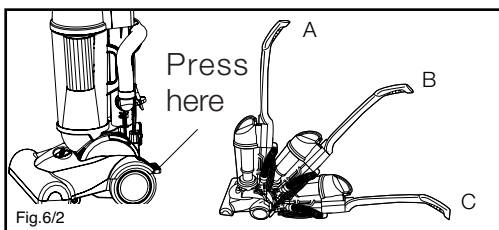

Fig.6/2
3. Move the handle to the desired position. (A) for upright position, (B) for normal operation and (C) to clean under furniture (Fig.6/2).